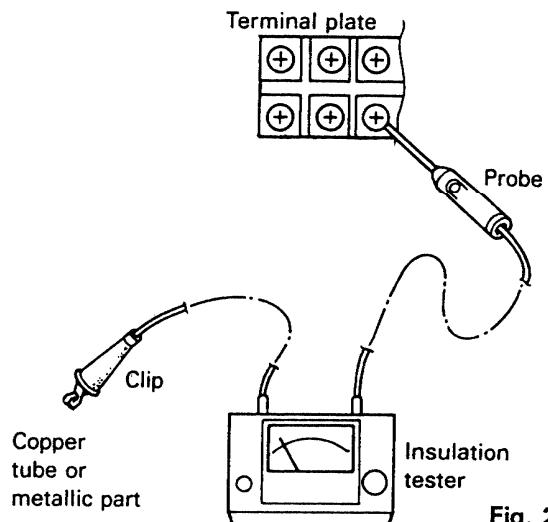

Fig. 2
Clamp the aluminum plate fin or copper tube with a lead clip of the insulation resistance tester and measure the resistance by placing a probe on ①, and then ② on the terminal plate. (Fig. 2)
Clamp the metallic part of the unit with a lead clip of the insulation resistance tester and measure the resistance by placing a probe on ①, and then ② on the terminal plate. (Fig. 2)